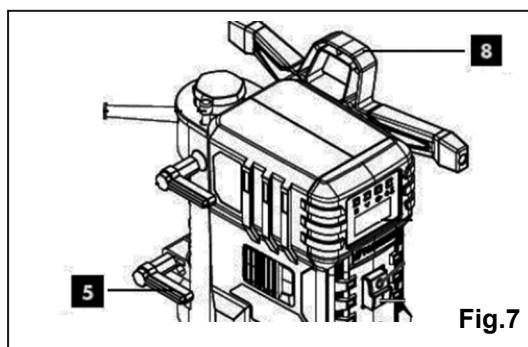

Fig.7
- 2 Hold the handle (8) firmly.
- 3 Release the clamping (5) lever for the height adjustment.
- 4 Set the position of the machine head with the handle (8).
- 5 Secure the position of the machine head with the clamping lever for height adjustment (5).(Fig.7)
- 1 Turn the securing ring (K) in the "RELEASE" direction.
- 2 Turn the clamping sleeve (L) clockwise until the drill bit (M) can be removed.(Fig.7)